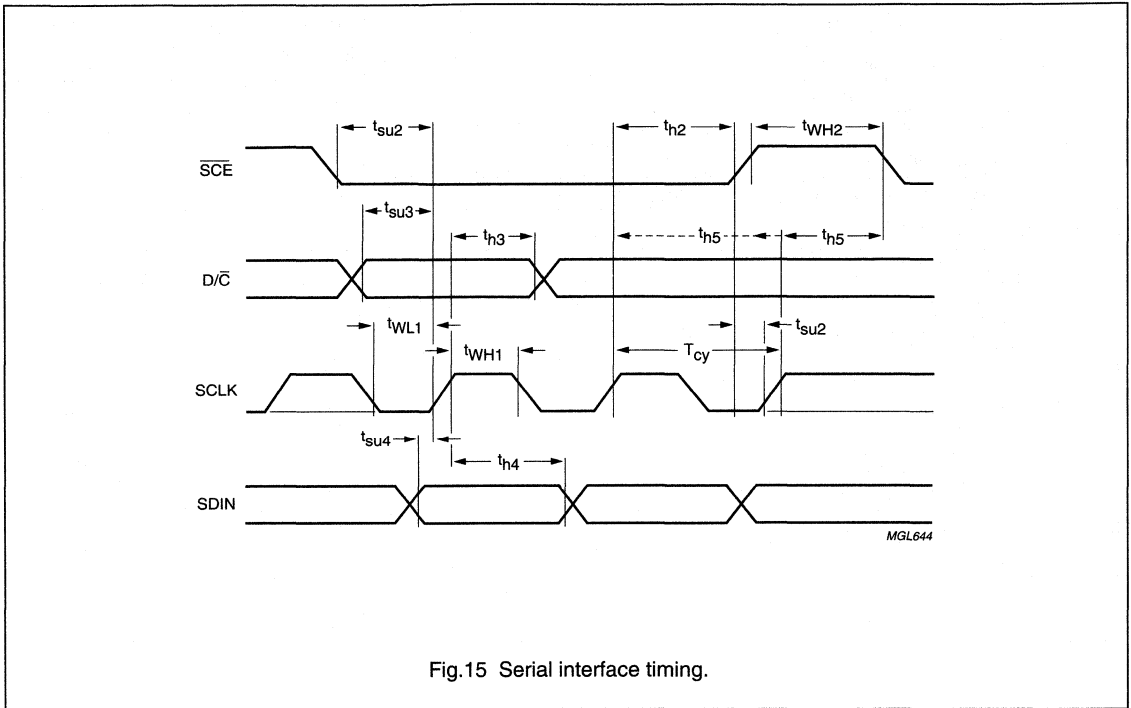

Fig.15 Serial interface timing.
- t_{h5} is the time from the previous SCLK positive edge (irrespective of the state of \overline{SCE}) to the negative edge of \overline{SCE} (see Fig. 15).